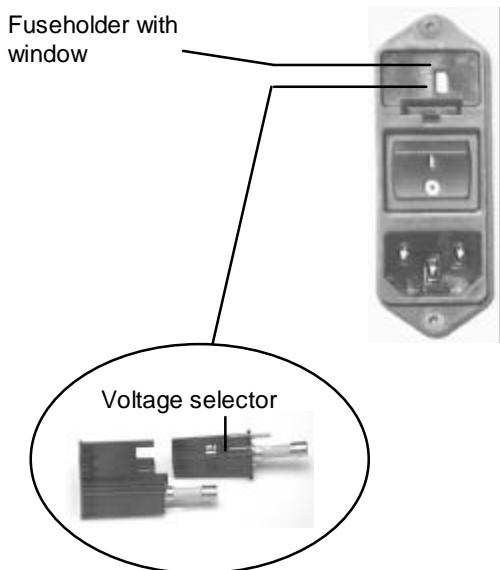

Figure 9. Voltage selector
- Remove the voltage selector and reinsert it into the required position in the fuseholder. The selected voltage appears in the small window (Figure 9).
- Lever out the fuseholder with a screwdriver (Figure 9, Page 30).